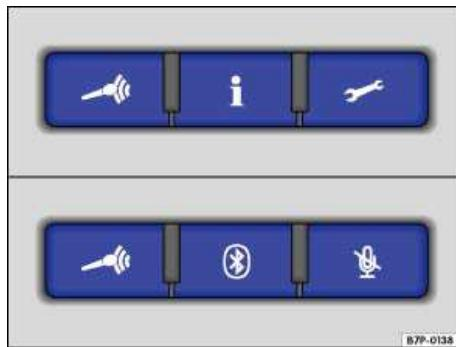

Fig. 229 3 button module in the roof: Controls for the telephone control.
- 3 button module in the roof ⇒ fig. 229.